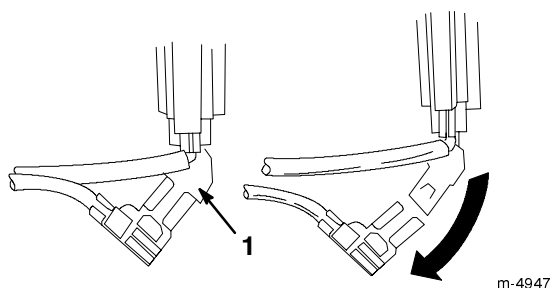

Figure 9
6. Disconnect the green ground wire clip under the throttle (Fig. 9).